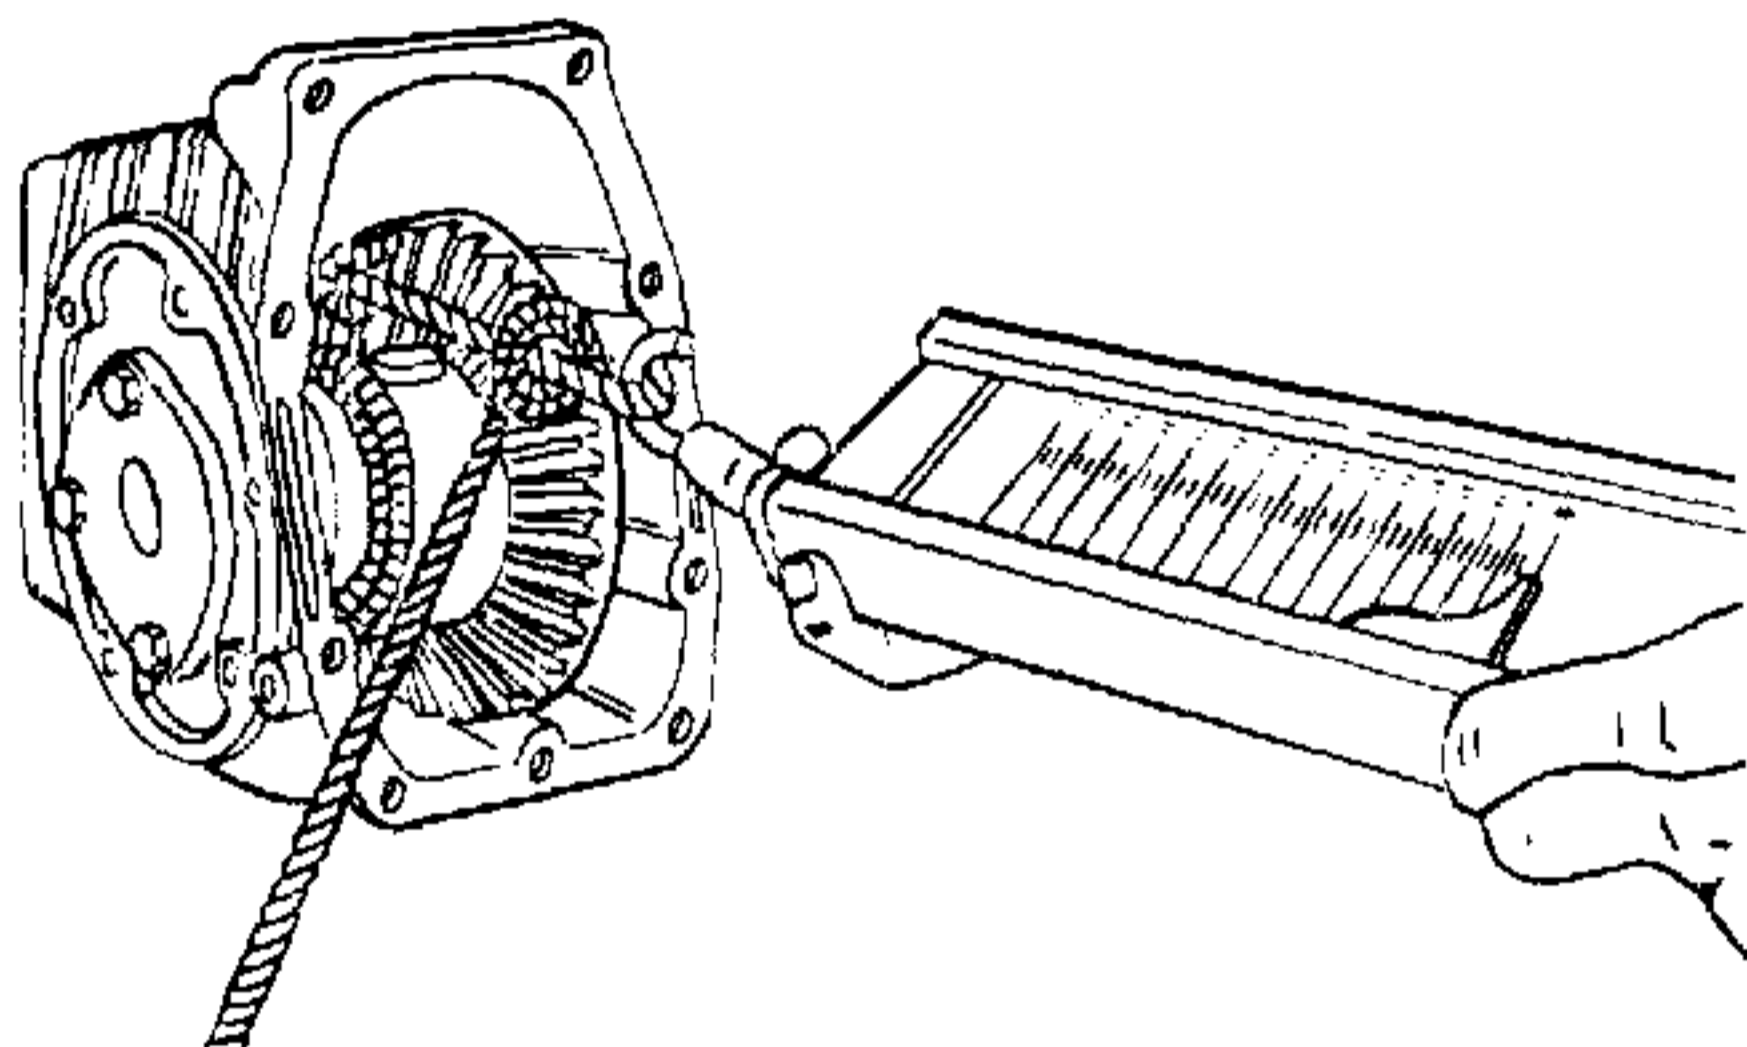

Figure 5-75. Tapered Bearing Preload.
1. Place differential in rear transaxle housing (1).
- a. Tapered bearing preload – 4 to 14 lbs. on pull scale. Refer to Figure 5-75.